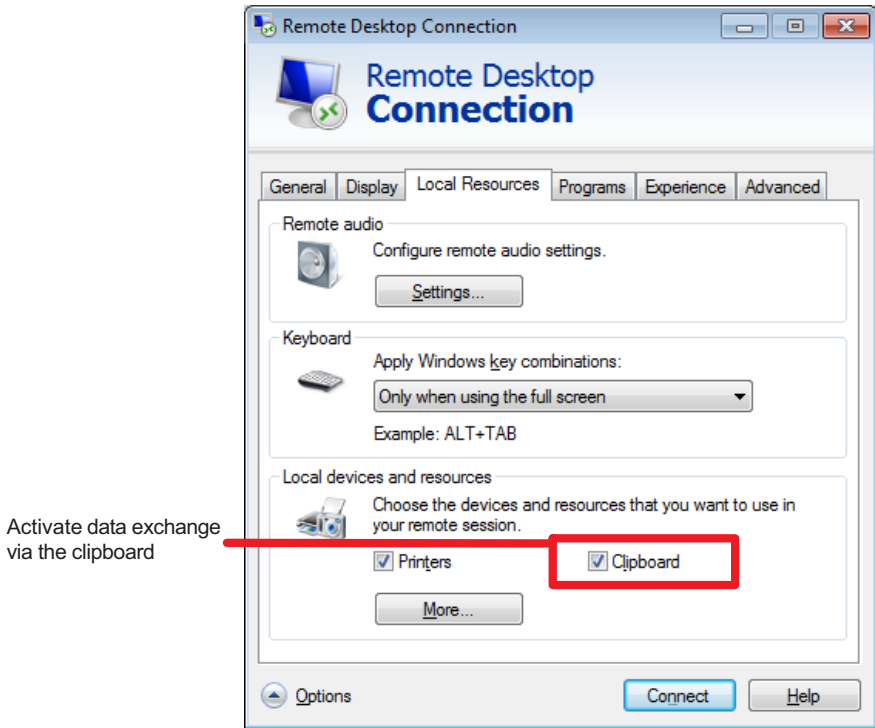

Fig. 6.6 Remote desktop connection local resources tab
- ▶ Go to the **Local resources tab** and activate **Clipboard** , for example, and/ or **Printers** (*Fig. 6.6*).